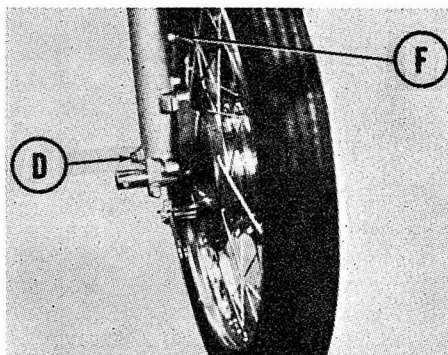

Fig. BE1-3—Oil in front forks is drained at screw (D). Oil should be maintained at level of filler screw hole (F).
**SUSPENSION.** Each front suspension unit is drained at plug (D—Fig. BE1-3). Fill to the level of filler plug (F) with SAE 20 motor oil. Fluid in the front suspension should be checked every 1,000 miles and drained every 5,000 miles. The rear suspension